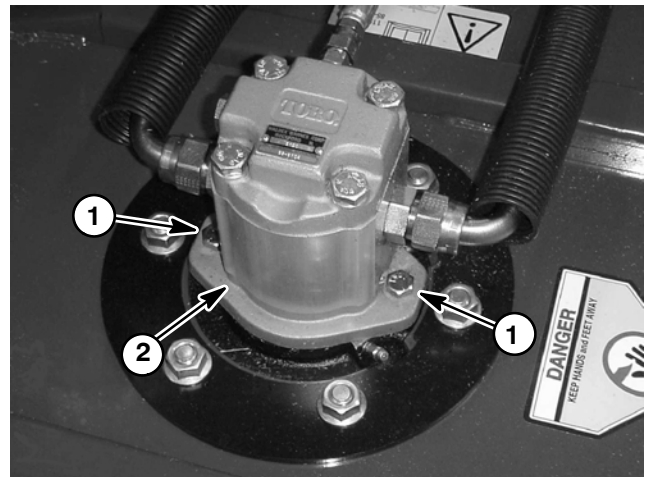

Figure 7
2. Remove two cap screws that secure hydraulic motor to the cutting unit (Fig. 7). Remove hydraulic motor from deck and O-ring from top of spindle housing.
5. Position O-ring to top of spindle housing. Install hydraulic motor to the cutting unit with two cap screws (Fig. 7).